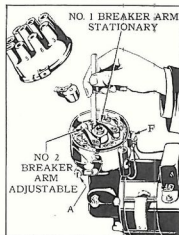
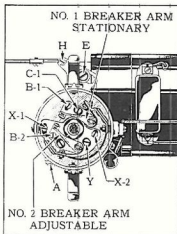

FIG. 1
FIG. 6
- Remove distributor cap and rotor. Figs. 1 and 6.
- Loosen distributor headclamp screw (A).
- If the gap is incorrect, loosen clamp screw (B-1) see Fig. 6, and turn eccentric screw (C-1) until gap is just $.020''$. Repeat this operation on No. 2 breaker arm (adjustable).
10. Loosen the two breaker arm plate locking screws (X-1) and (X-2), Fig. 6. Turn the eccentric screw (Y) so that breaker arm advances in clockwise direction, until points just separate which can be determined by watching the spark as described under No. 8.